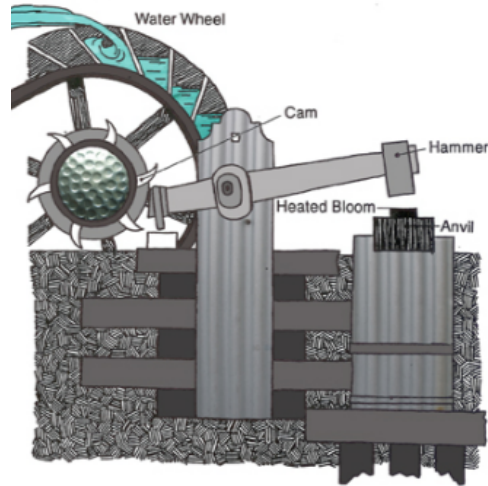

Figure 2: This trip hammer has several cams pushing it up so it can be used for pounding metal.
The triphammer, as seen in Fig. 2 is a tool used by blacksmiths to pound onto hot metal, thus changing the metals' shape (2). It makes sense to use a water wheel to do this work because, if the flow of water is steady, the wheel gives a predictable, cyclic pattern of motion for the hammer, which is demonstrated in my animation.